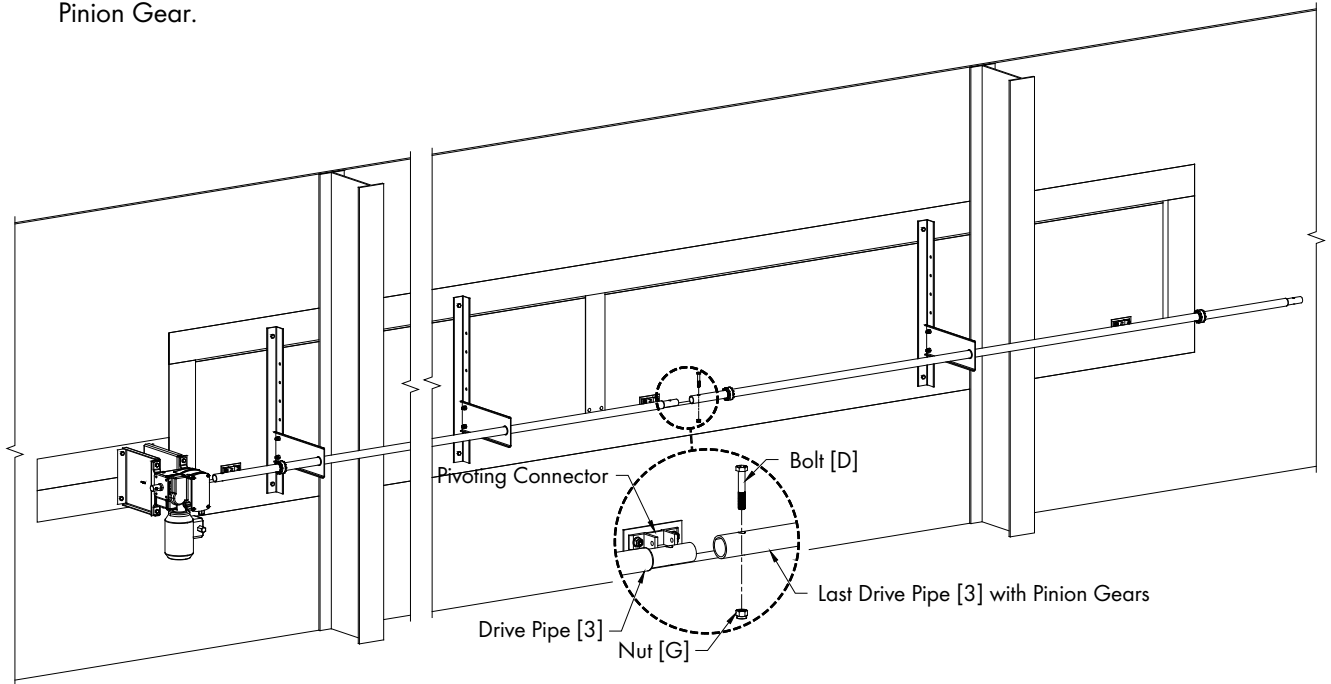

Figure 37
For the last Drive Pipe [3] requires (2) Pinion Gears on the Pipe. Slide the swaged end of the Drive Pipe through the Bronze Bushing in last Guide Plate [13], there will be one Pinion Gear on each side of the Guide Plate. Slide the opposite end onto the swaged end of the previous pipe. If needed slide one of the Pinion Gears past the joint in the pipes to align with the Pivoting Connector. Align the pre-drilled holes and secure pipes together using Bolt [D] and Nut [G]. See Figure 37. Cut excess Drive Pipe 3" past the last Pinion Gear.